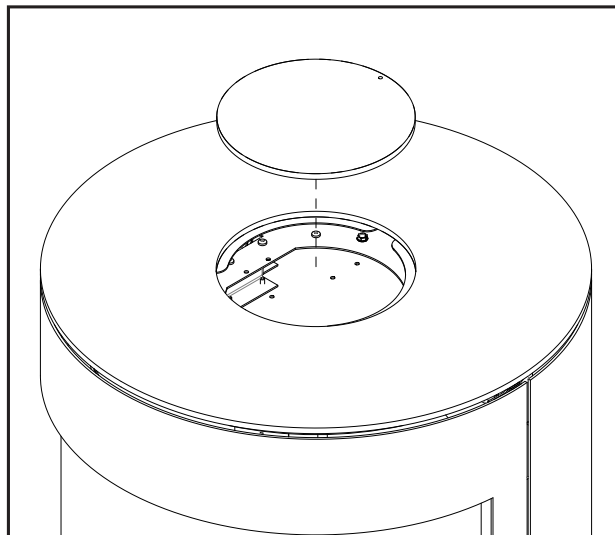

Figure 74: Top Plate Blank
14. Place the top plate blank (included with the unit) into the top plate (see Figure 74).